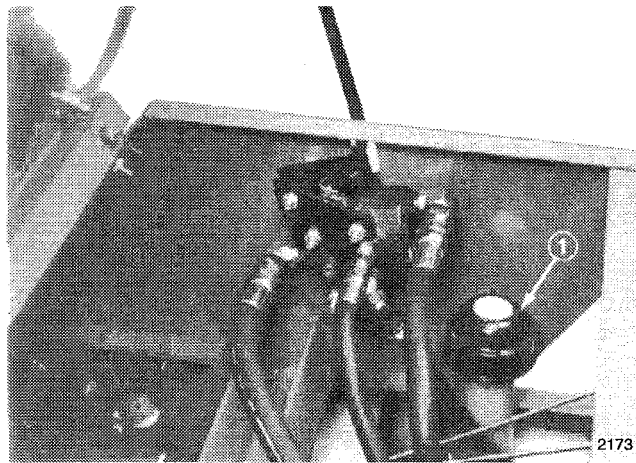

Figure 7
2. Remove dipstick cap from filler neck (Fig. 7) and wipe it with a clean rag. Insert dipstick cap onto filler neck; then remove it and check level of oil.
4. Install dipstick filler cap onto filler neck (Fig. 7).